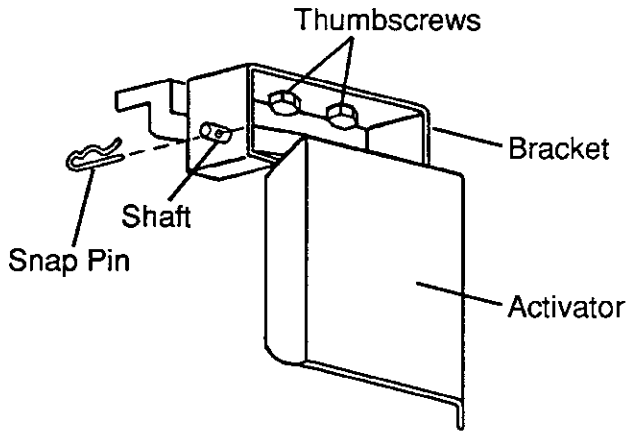

Fig. 5
- 3) Remove the Bin Control Bracket Assembly. See Fig. 5.